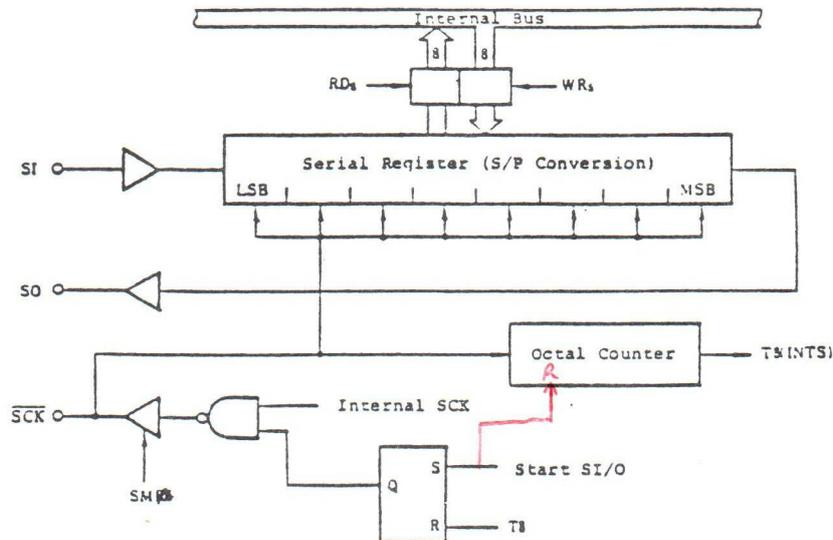

Fig. 2-3 The Block Diagram of Serial Ports
Serial interface section (see Fig. 2-3) consists of Serial Input (SI) line, Serial Output (SO) line, Serial Clock ( $\overline{SCK}$ ) input/output line, an 8-bit Serial Register (S/P), an octal counter, a R-S flip-flop used for transfer control, and some gates. When the bit 6 of Serial Mode Register (SM6) is 0,  $\overline{SCK}$  becomes internal clock mode fixed to a half of system clock frequency (if  $f_{osc}=4\text{MHz}$ , then  $\overline{SCK}$  is fixed to 500KHz), however, when the SM6 is 1, it becomes external clock mode, and operates with DC to 500KHz external clock. Accordingly, the transfer operation in internal clock mode performed synchronously with constant frequency, and in external clock mode it performed synchronously with variable frequency.